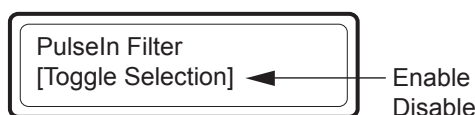

Figure 4.13—PulseIn Filter menus
3. Press ENTER until the PulseIn1 Filter menu appears (Figure 4.13). The bottom readout should display the default setting, “Enable.”